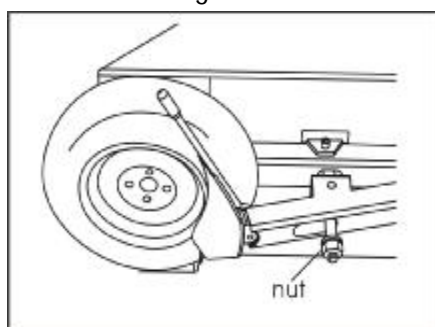

Fig.18
- I The bead breaker is able to swing within a certain range. In case the range of swing is not appropriate, adjust the nut (Fig.18) at the right end of the piston rod.